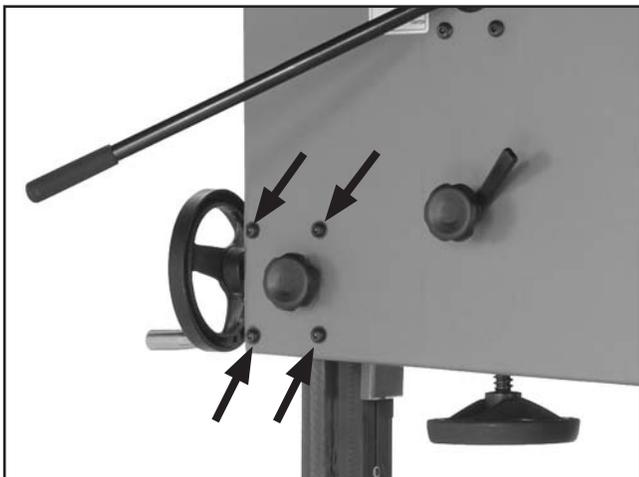
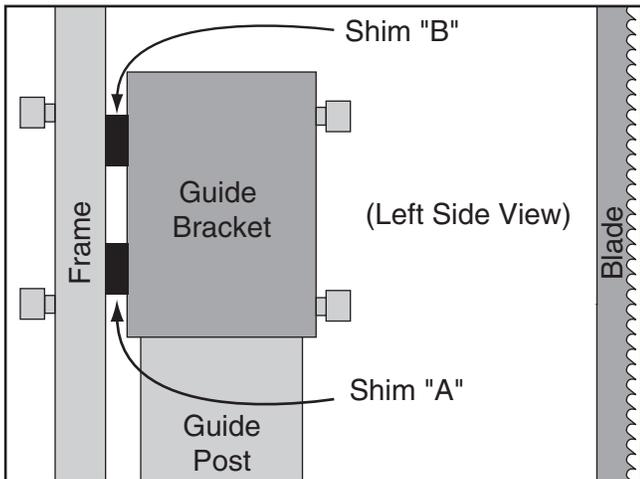

Figure 67. Guide post adjustment screws.
Figure 69. Location for placing shims.
- Loosen each of the four screws shown in **Figure 67** ¼ turn.
- Tighten the screws shown in **Figure 67**.
7. Loosen the four screws shown in **Figure 67** enough to fit metal shims between the frame and the guide post bracket (see **Figure 69**).
8. Tighten the four screws shown in **Figure 67**, then repeat **Steps 4–5**.